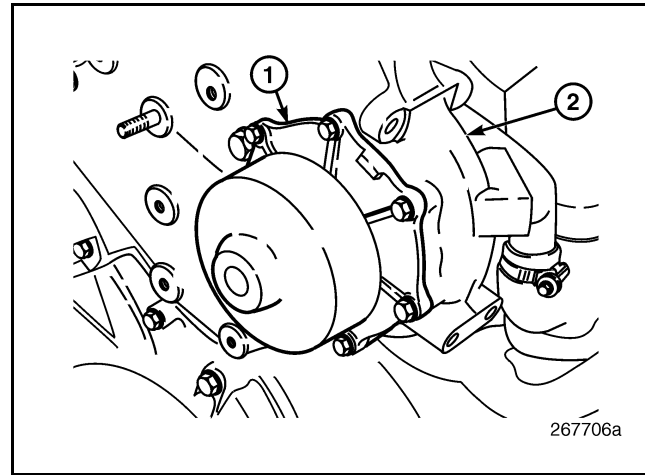

Figure 150 — Pump Cartridge Assembly
- Remove the seven mounting capscrews and remove the pump cartridge assembly from the water pump housing (Figure 150). Discard the O-ring.